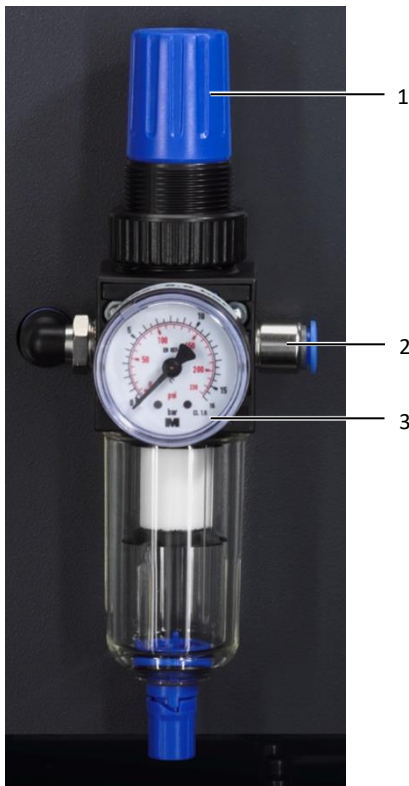

Fig. 6: Installing connections
- First connect the compressed air hose to the compressed air maintenance unit of the automatic machine (fig. 6, item 2).
- Check the manometer display (fig. 6, item 3).
- If necessary, adjust the operating pressure by pulling the adjusting screw upwards (fig. 6, item 1) and turning it carefully: